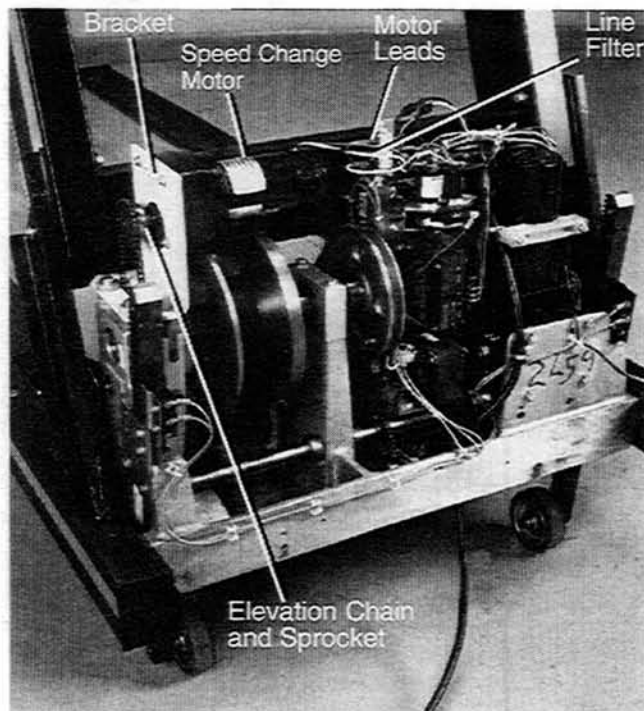

Figure 3-7. Speed Change Motor
2. Unplug the quick disconnects from the line filter (Figure 3-7).